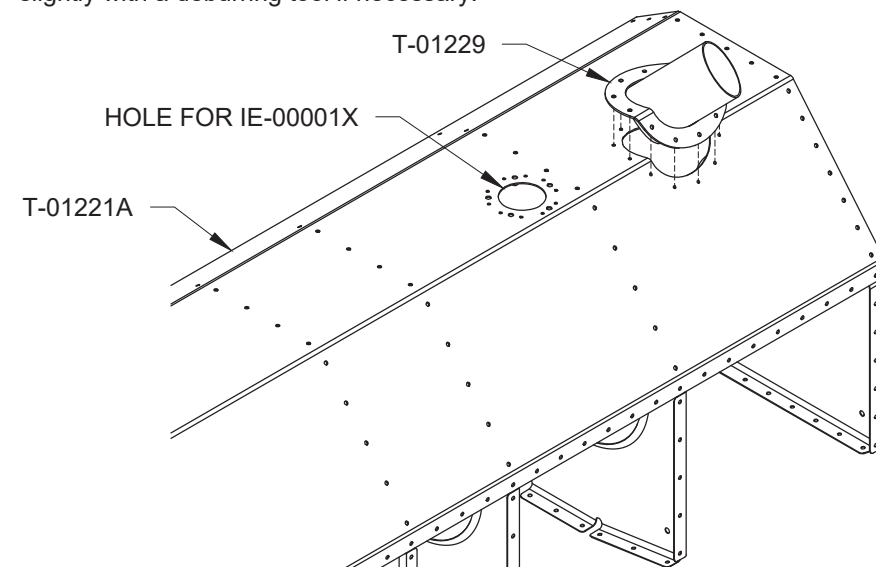

FIGURE 2: FINAL-DRILLING THE FUEL TANK INLET ASSEMBLY
Step 4: Cleco the T-01229 to the T-01221A, then final-drill #30 the holes common to the two parts. See Figure 2.
Step 5: Insert the IE-00001X (see Page 26iS/U-01) into the hole indicated in Figure 2 and ensure that the flange on the IE-00001X lies flush against the T-01221A. Enlarge the hole slightly with a deburring tool if necessary.